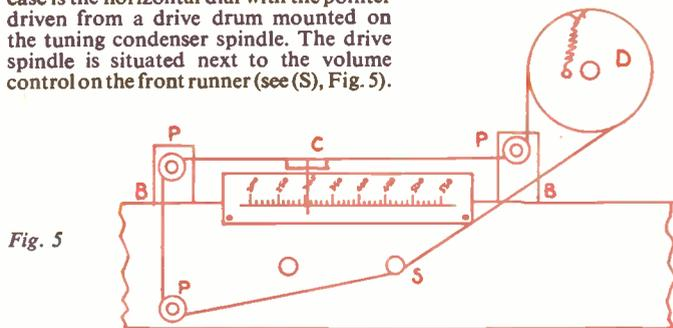

Fig. 5
First, attend to the dial and drive arrangement. The style adopted in this case is the horizontal dial with the pointer driven from a drive drum mounted on the tuning condenser spindle. The drive spindle is situated next to the volume control on the front runner (see (S), Fig. 5).
However, one can make one's own for the sake of economy. Use stiff cardboard with a smooth white or cream paper surface (a shoe box is good). With pencil, lightly mark out a scale similar to that seen in Fig. 5. The larger divisions are ¼ in. and the smaller, ⅙ in. There are seven large divisions, making the scale 3½ ins. long. The larger divisions